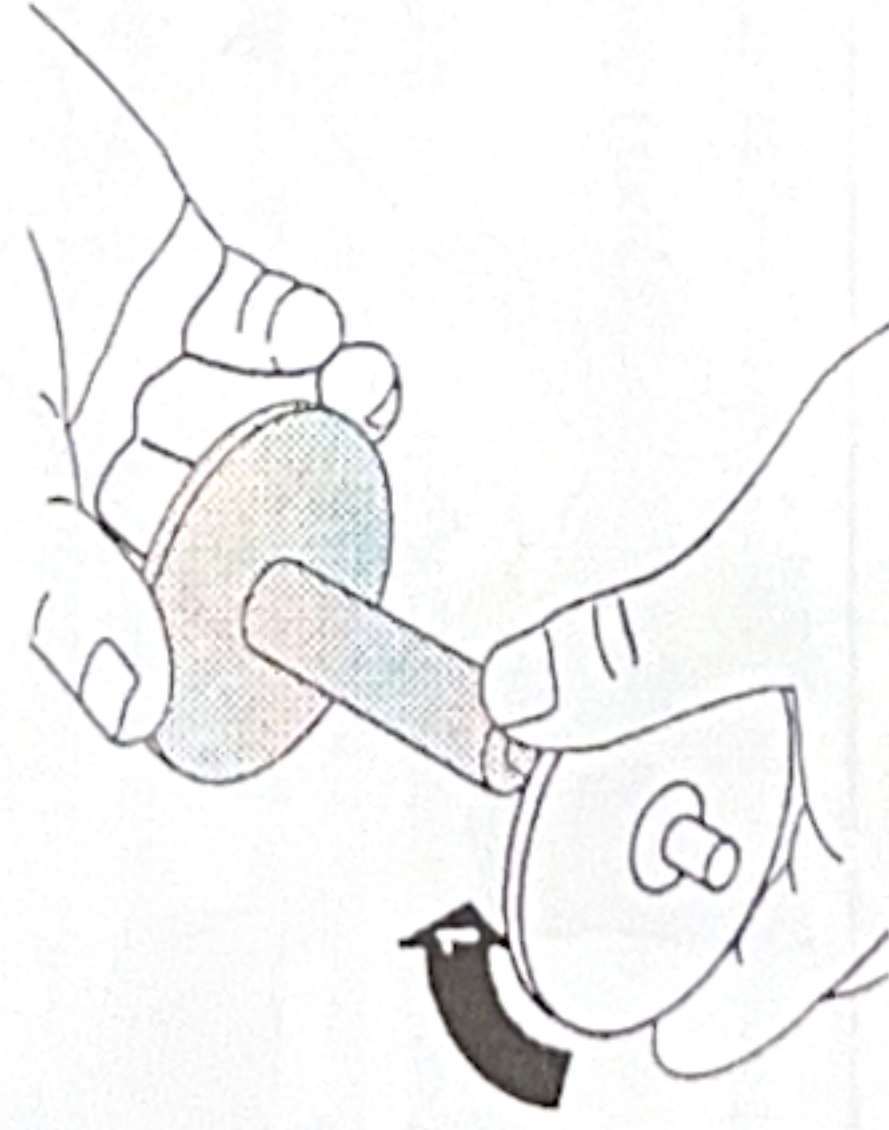

Figure 1-27
1. Reattach the flange on the left side of the spindle by turning it clockwise in the direction of the ON arrow. (see figure 1-27)